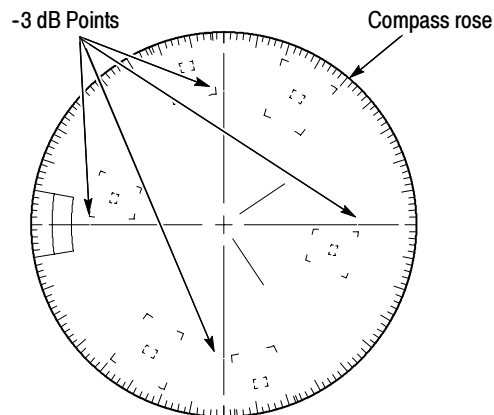

Figure 4-1: -3 dB marks on the vector graticule
4. Decrease the frequency on the leveled sine wave generator until the edge of the circle display reaches the -3 dB (70%) gaps on the vertical graticule axis. See Figure 4-1.
8. Increase the frequency on the leveled sine wave generator until the edge of the circle display expands out to the compass rose and again reduces to the -3 dB (70%) point gaps on the vertical graticule axis. See Figure 4-1.